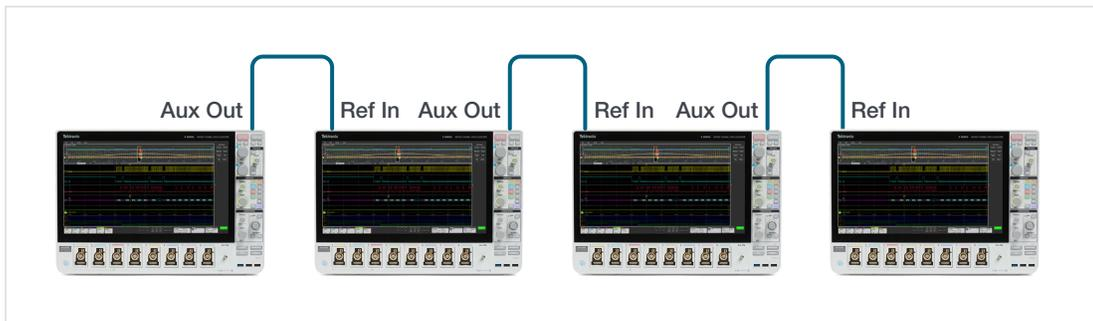

Figure 5. Using the timebase reference from one oscilloscope to feed other oscilloscopes.
2. Another method is to use the internal reference clock of one oscilloscope and feed it to the next scope, as shown in **Figure 5**. In turn the Aux Out of that scope may feed